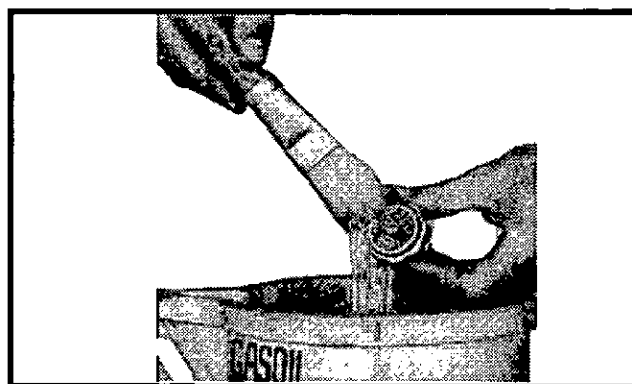

Figure 5-20 Clean the Engine Oil Filler/Breather
2. In case of clogging, wash in a commercial cleaning detergent and clean using an appropriate brush, (Figure 5-20).